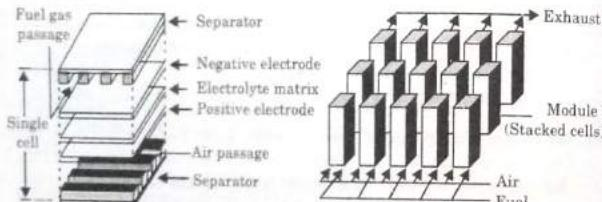

Fig. 3.25.2. Power generation unit.
5. Basic configurations of cell, module and plant are shown in Fig. 3.25.2.